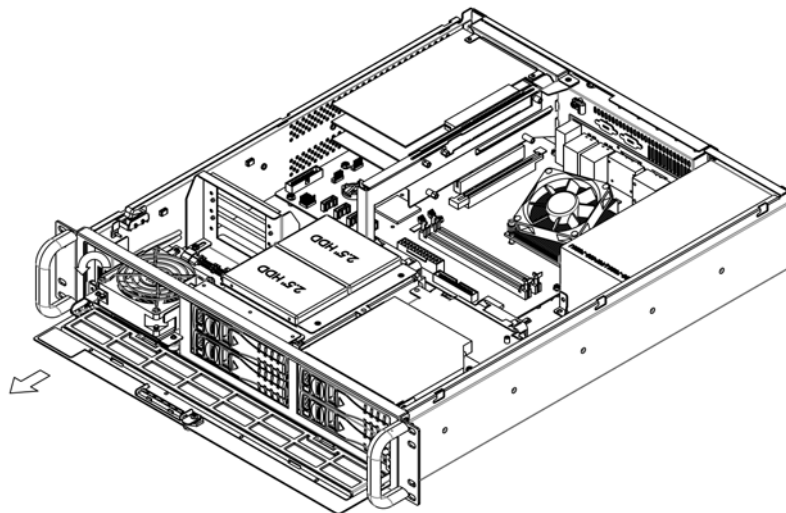

Figure 3.4: Take out the fan bracket)/ 取出系统风扇支架 / 取出系統風扇支架
2. Unscrew the 2 knurled screws on the left side of the panel. Rotate the fan bracket 90 degrees outward from the chassis. Take out the fan bracket carefully. (See Figure 3.4)
2. 松开面板左侧的 2 颗手转螺丝，向着机箱外 90 度转动风扇支架，小心将风扇支架取出（如图 3.4）。